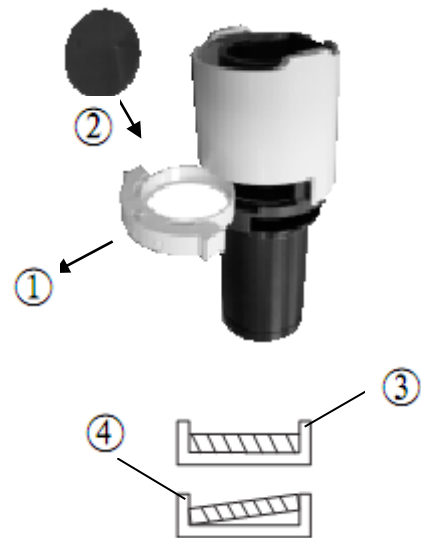

Fig.11
2-2-7 Installing the color filters (Fig.11)
Push the filter down to the bottom as shown in Fig.11 (3) so that it does not tilt. If the filter is inclined or is not pushed down to the bottom (4), it may fall off the filter holder.